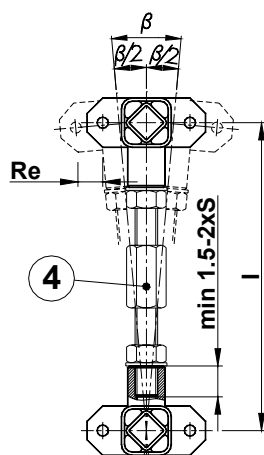

Fig.2
*Figure 2 illustrates the ideal design of a suspension using one connecting unit obtained by drawing an hexagonal bar. The bar end threads must be right-hand and left-hand respectively: this allows any unavoidable adjustments of the axle base which can be carried out with a monkey spanner when setting up the system.*